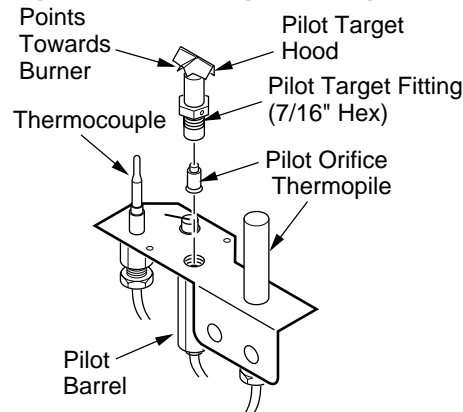

Figure 14 - Removing/Replacing Pilot Orifice
6. Convert the pilot burner by changing out the quick change orifice. **Note:** It is not necessary to remove the pilot gas tube for conversion. Using a 7/16" open end wrench, turn pilot target hex fitting counterclockwise and remove (see Figure 14).
8. Place open end of conversion pilot orifice into pilot barrel (see Figure 14).